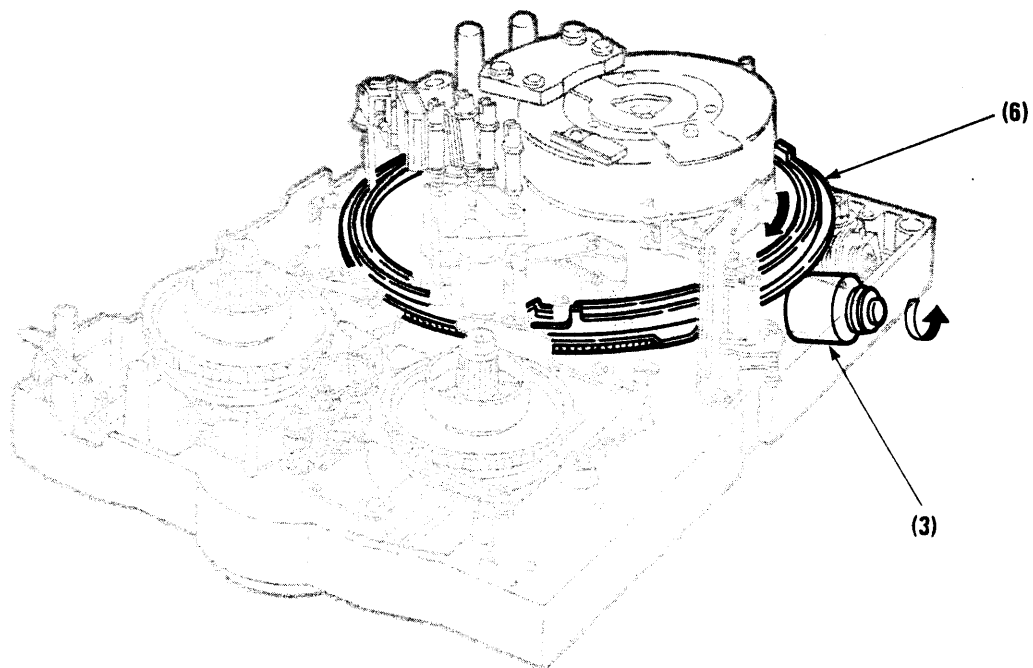

Fig. 3-2-6
If the sensor detects that the reel base has stopped during the LOADING mode, the loading motor (3) will rotate in the counter clockwise direction and the loading ring (6) will rotate in the clockwise direction to perform unloading. Then, once unloading is completed, the VCR will enter the STOP mode. (see Fig. 3-2-6.)